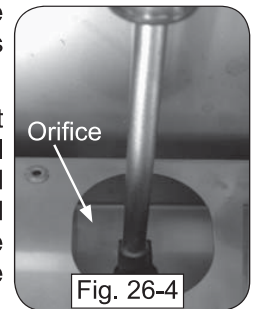

Fig. 26-4
5. Use a $\frac{3}{8}$ " hex nut driver to remove the exposed orifice (Fig. 26-4) and replace it with the correct orifice for the new gas. (See Table 1 at the beginning of this document for orifice sizes.)